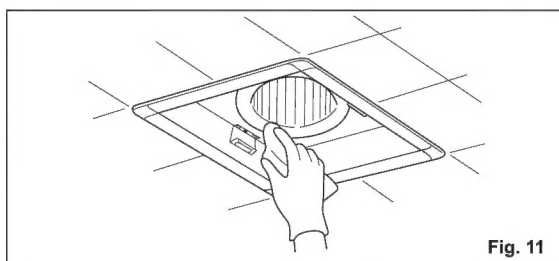

Fig. 11
4. Using a cloth dampened with kitchen detergent, remove any dirt from fan body. Wipe dry with new cloth. (Fig. 11)